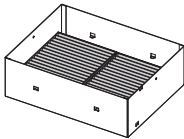

Fig. 3
- When the two air filter units are attached (Fig. 3), proceed to “Attaching the long life filter cover” (➡ page 10) next.